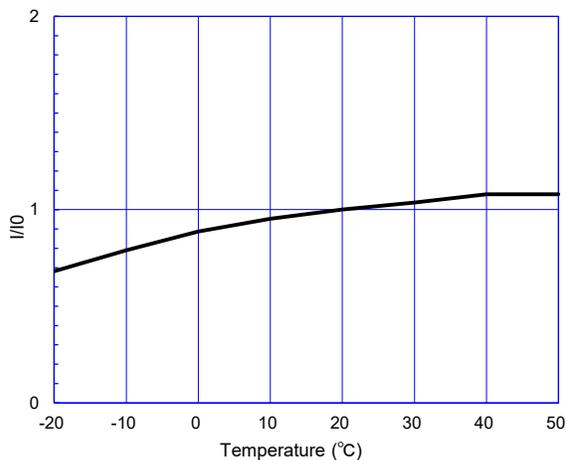

Fig. 7 - Temperature dependency (I₀=sensor output current at 20°C)
Figure 7 shows the sensitivity change with temperature measured using the recommended basic measuring circuit. The Y-axis shows the ration of output current in 100ppm of CO at various temperatures (I) to the output current in 100ppm of CO at 20°C. The sensitivity gradually decreases as the temperature decreases, and the sensitivity slightly increases as the temperature increases. Therefore, the temperature dependency of carbon monoxide sensitivity of FECS40-1000 can be compensated by a NTC thermistor.